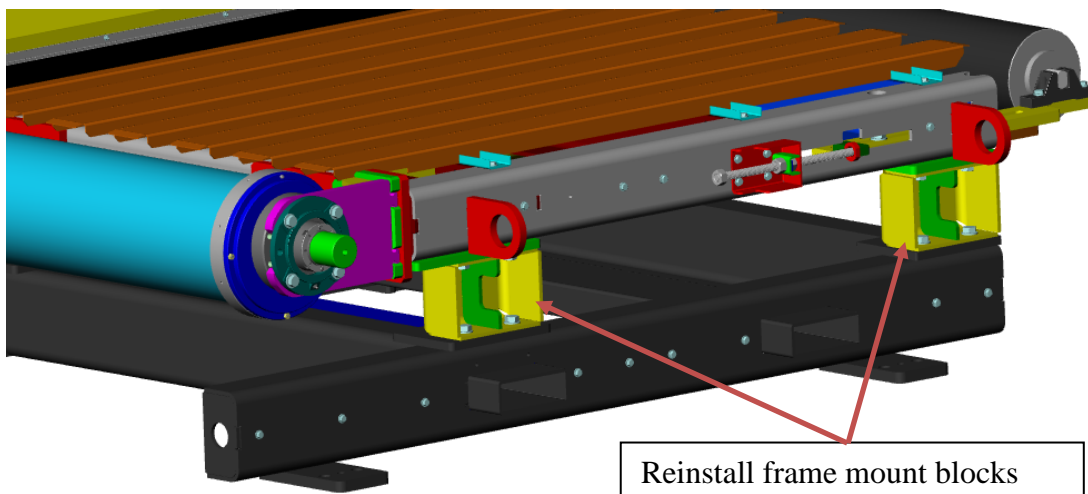

Figure 7
3. Reinstall the frame mount blocks to stabilize the off-drive side of the upper frame assembly. See **Figure 7**.